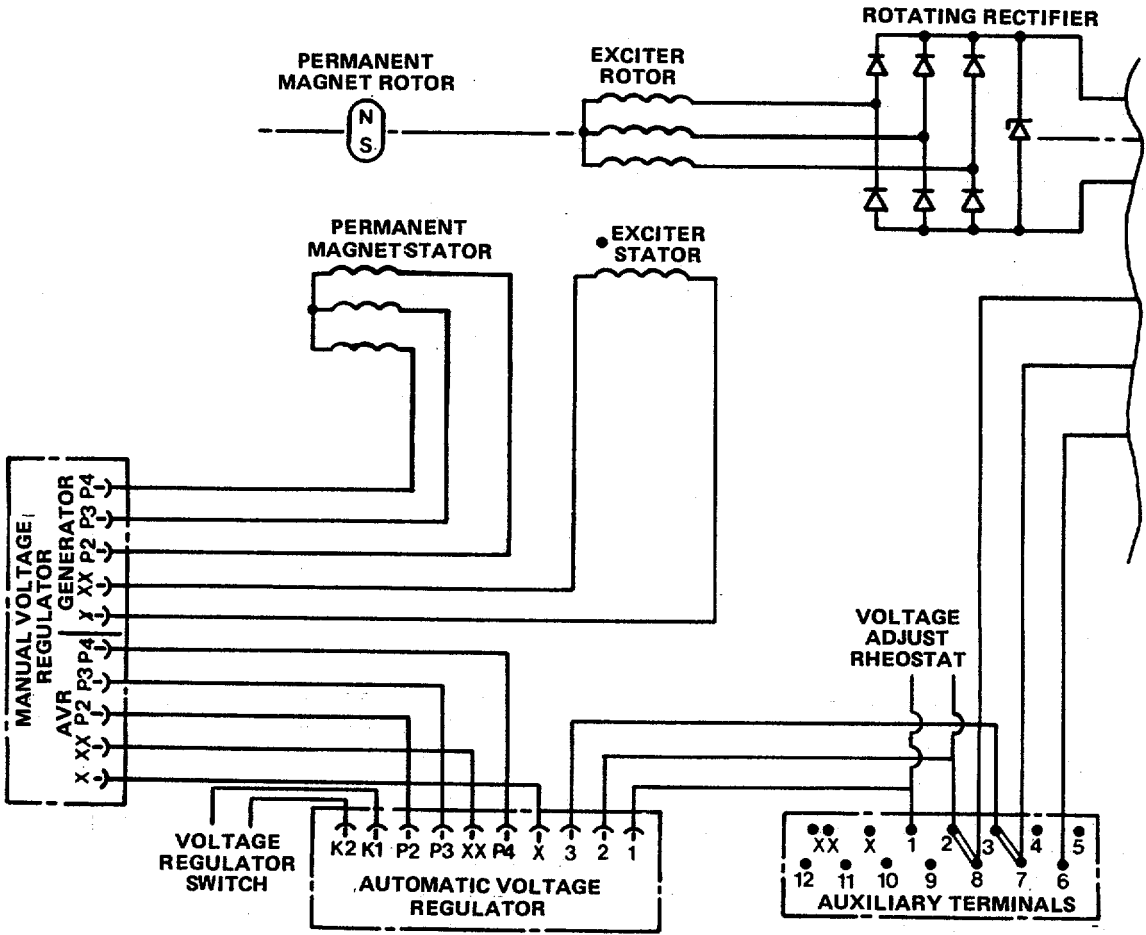

FIGURE 3-5. Voltage Regulator Connections and Wiring.
- (1) Use a 12 volt dc supply to separately excite the generator as follows (see Figure 3-5 for voltage regulator terminals):